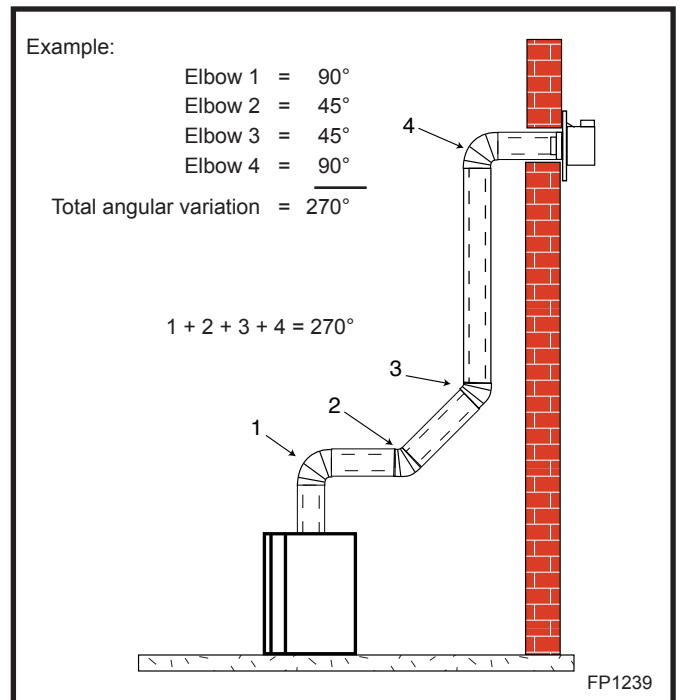

Fig. 17 Maximum number of elbow degrees.
- The maximum number of 45° elbows permitted per side wall installation is two (2). These elbows can be installed in either the vertical or horizontal run.
- The maximum number of elbow degrees in a system is 270°. (Fig. 17)